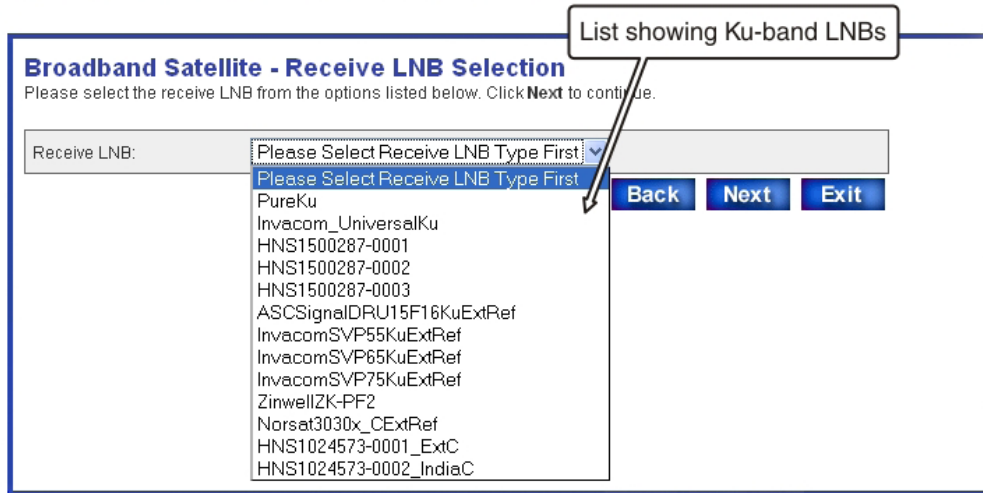

Figure 22: Receive LNB Selection screen—two variations
1. On the Receive LNB Selection screen, select the installed LNB from the Receive LNB drop-down list (*Figure 22: Receive LNB Selection screen—two variations* on page 36).